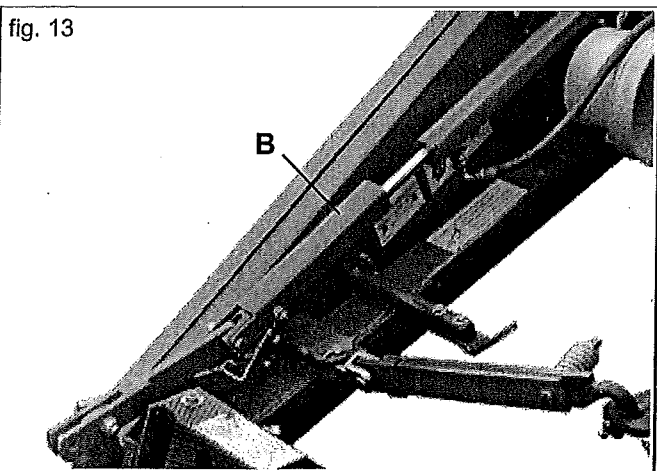

fig. 13
CAUTION: While working regularly check that the bracket (B) is still resting along the cylinder rod (Fig. 13).